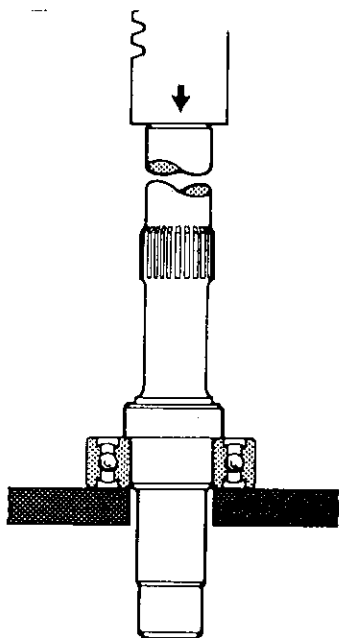

Figure 3.15
4. Press a new drive shaft bearing (10) onto drive shaft (28), as shown in Figure 3.15.